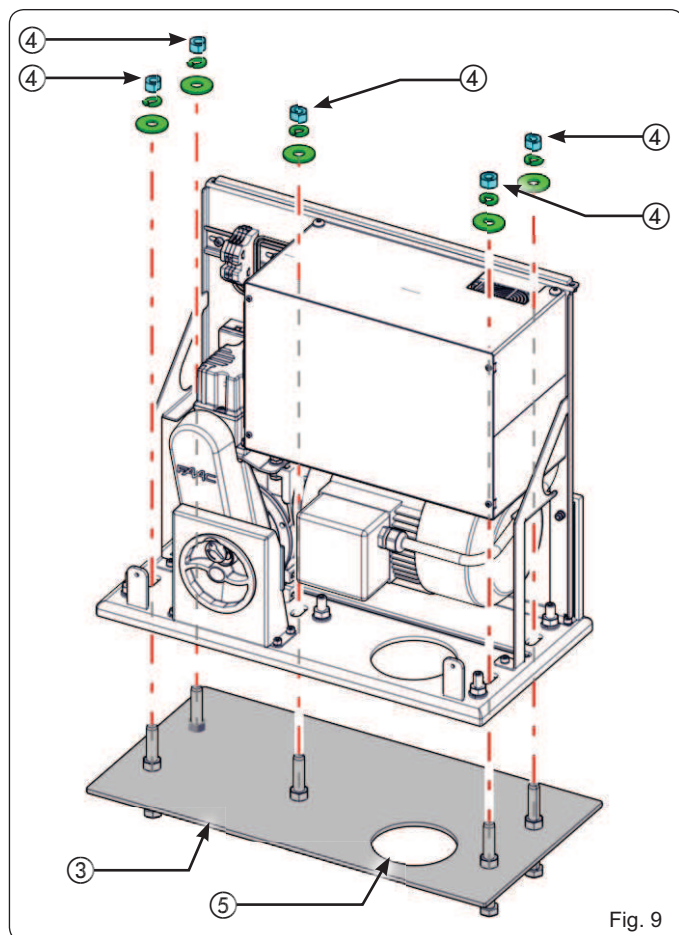
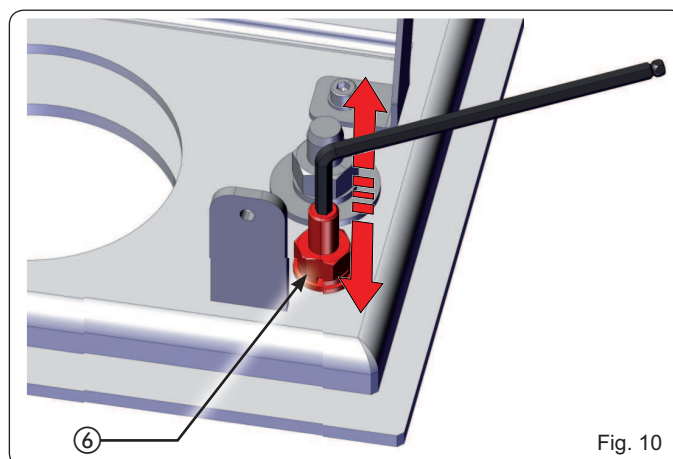
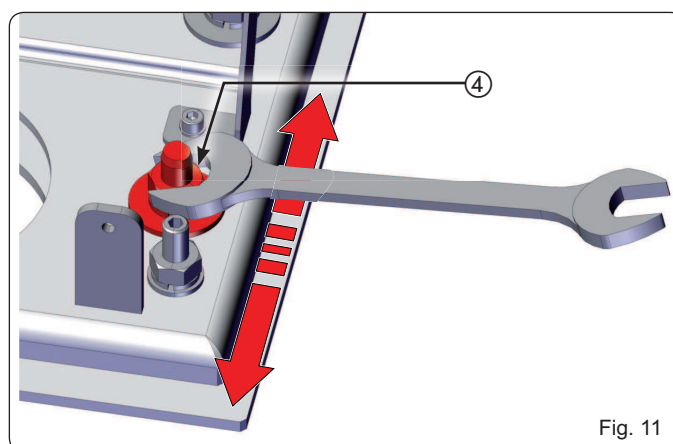
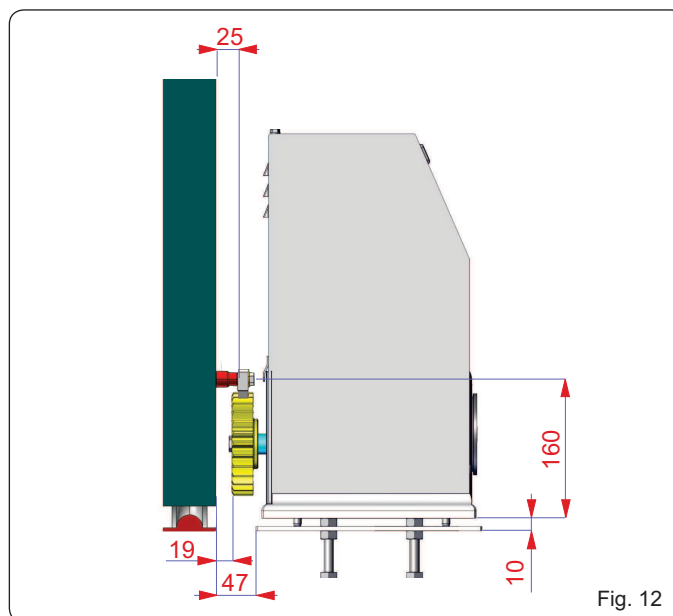

Fig. 9
Fig. 10
Fig. 11
Fig. 12
2. Position the operator on the foundation plate and secure it without tightening the nuts, Grover screws and washers supplied with the foundation plate (not provided) (Fig. 9 ref. ③ ④). When doing this, run the cables through the provided opening (Fig. 9 ref. ⑤).
3. Use the adjustment screws to set the height of the gearmotor (Fig. 10 ref. ⑥), referring to the measurements in Fig. 12.
5. Move the gearmotor horizontally to adjust the distance from the rack (Fig. 11), referring to the measurements in Fig. 12.
6. Once the adjustment is completed, tighten the nuts temporarily (Fig. 9 ref. ④ and Fig. 10 ref. ⑥):
-  **Tighten the fixing nuts (Fig. 9 ref. ④) with 80 Nm of torque.**
Tighten the fixing nuts (Fig. 10 ref. ⑥) with 40 Nm of torque.